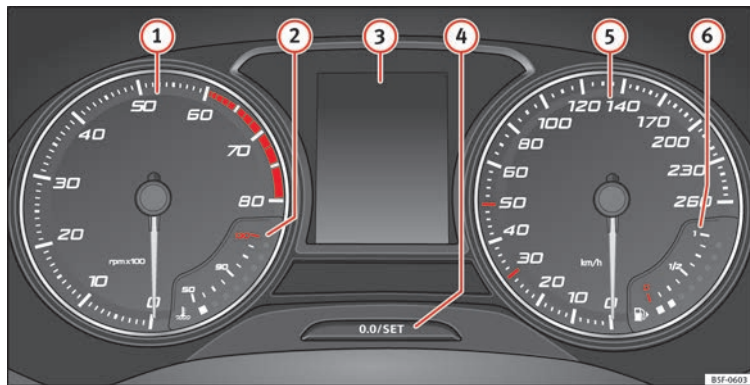

Fig. 117 Instrument panel, on dash panel
Details of the instruments » Fig. 117:
The rev counter indicates the number of engine revolutions per minute » Fig. 117 ❶.
❶ CAUTION
Never allow the rev counter needle ❶ » Fig. 117 to go into the red zone on the scale for more than a very brief period, otherwise there is a risk of engine damage.
A variety of information can be viewed on the instrument panel display » Fig. 117 ❸, depending on the vehicle equipment:
- Briefly press the button »» Fig. 117 ④ to reset the trip recorder to 0.
- Keep the button ④ pressed for about 3 seconds and the previous value will be displayed.
- To set the time, keep the button »» Fig. 117 ④ pressed for more than 3 seconds to select the hour or minute display.
- To continue setting the time, press the upper or lower part of the button ④. Hold but-
Hold the button **» Fig. 117 4** down for more than 15 seconds to display the identifying letters of the vehicle engine (MKB). To do this, the ignition must be switched on and the engine switched off.